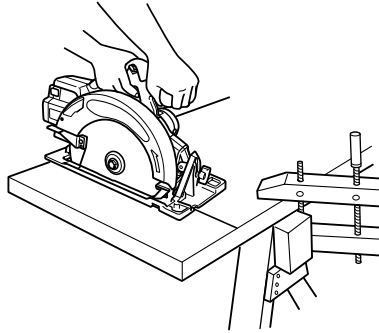

Fig. 4
**12. WARNING:** It is important to support the work piece properly and to hold the saw firmly to prevent loss of control which could cause personal injury. Fig. 4 illustrates typical hand support of the saw.